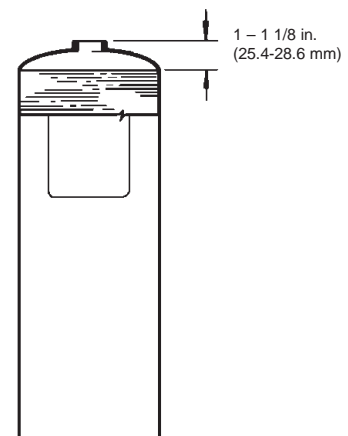

FIGURE 3
9. Make certain that each tank is filled to a level of 1 – 1 1/8 in. (25.4-28.6 mm) from the bottom of the fill opening. See Figure 3.